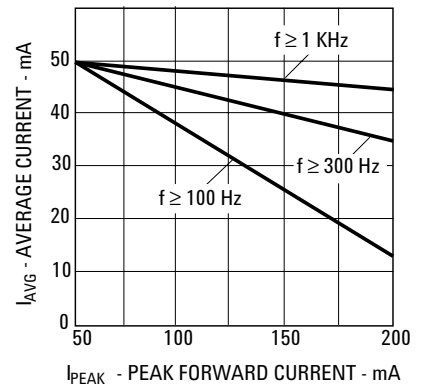

Figure 5. Maximum Average Current vs. Peak Forward Current.
- Any pulsed operation cannot exceed the Absolute Max Peak Forward Current or the Max Allowable Time Average Power as specified in Figure 5.